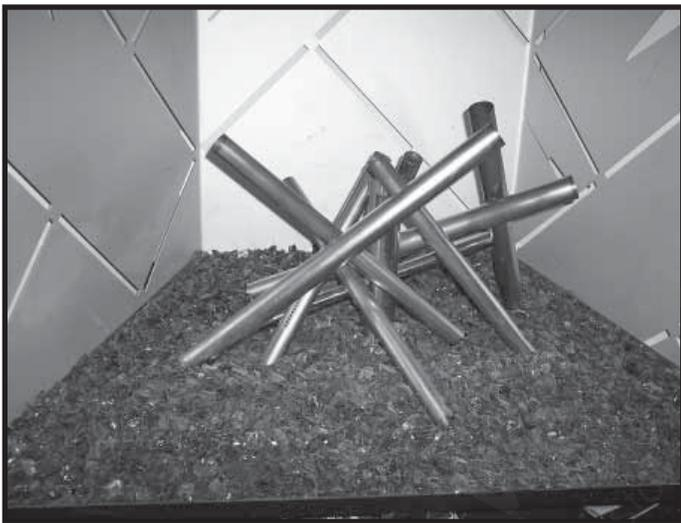

Figure 15.8 Install Glass Rock
- Spread glass rock evenly across hearth pan to just cover metal pan. See Figure 15.8.